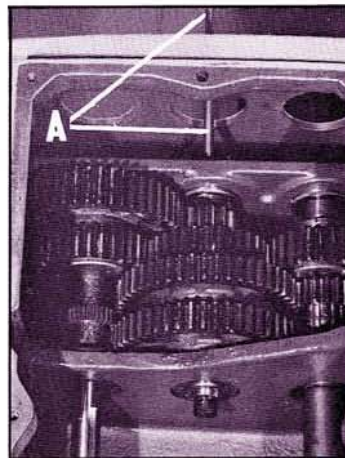

Fig. 12
12. Using a 5/16" diameter rod (A) Fig. 12, approximately 12" long, insert it into shaft in gear train and tap down shaft approximately 1/4" until it bottoms. DO NOT FORCE.